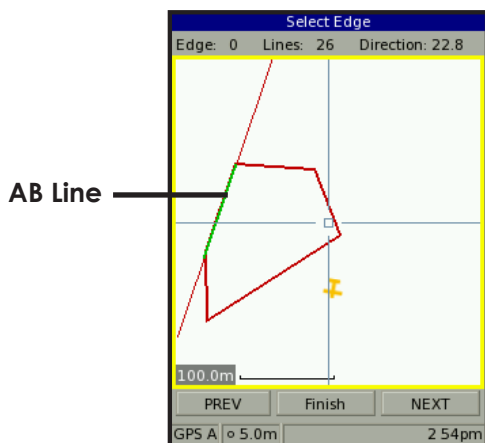

fig 9.1.2
- 2 On the Select edge screen (fig 9.1.2) either: